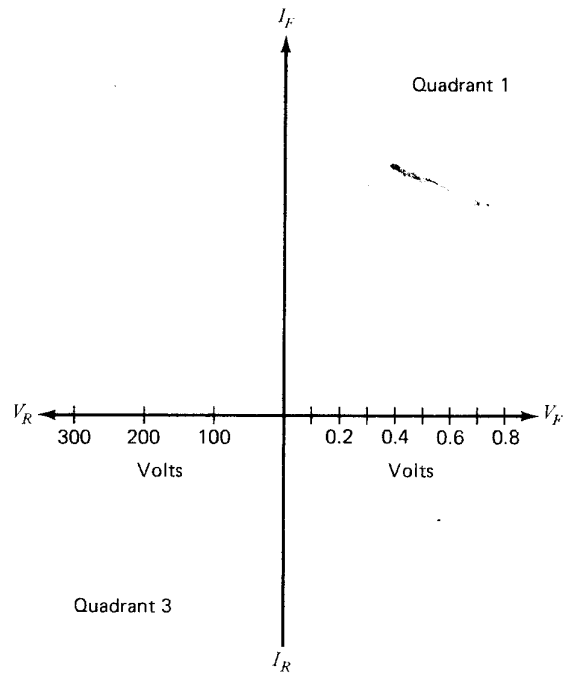

Fig. 51-4. Silicon diodes' forward and reverse characteristic curves.
9. Using the data obtained in steps 7 and 8, plot the forward characteristics of this diode in Fig. 51-4 (quadrant 1).
Note: If desired, draw your own plot similar to Fig. 51-4 to hand in with your report.
13. Plot I_R versus V_R on Fig. 51-4 (quadrant 3).
4. Describe the significance of the curve found in quadrant 1 of Fig. 51-4.
5. Describe the significance of the curve found in quadrant 3 of Fig. 51-4.